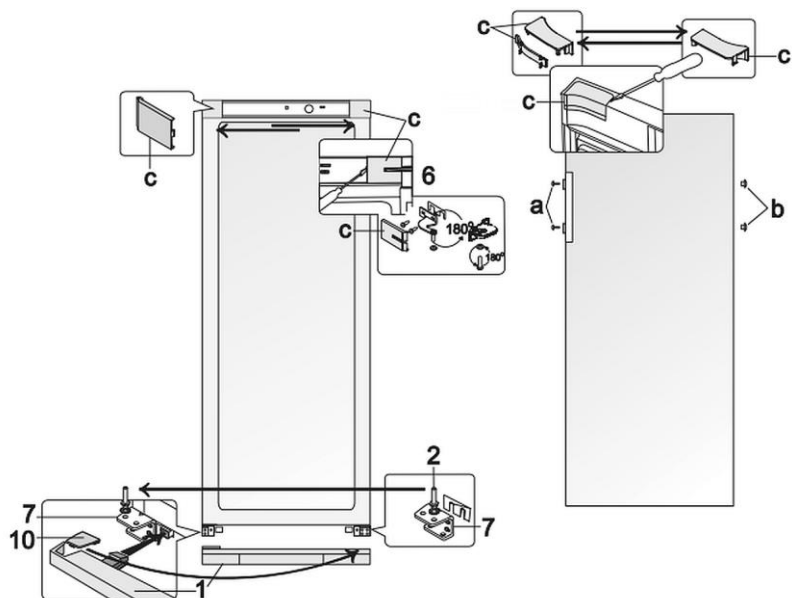

Fig. 8
1. Remove cover strips (c, Fig. 8) from the housing and the internal side of the door.
2. Remove the top support (6) together with washers and a plastic gasket under the support.
4. Remove the bottom cover strip (1).
5. Loosen the support stud (2) on the bottom support (7).
6. Bolt it with all washers on the opposite support (7), symmetrically with the previous location.
7. Set the cooler door on the support stud (2), moving it from the support (7).
8. Rotate the support (6) with the support stud, washers and plastic gasket by 180°.
10. Insert the support (6) into cooler door and screw it in openings at the other side of the cooler.